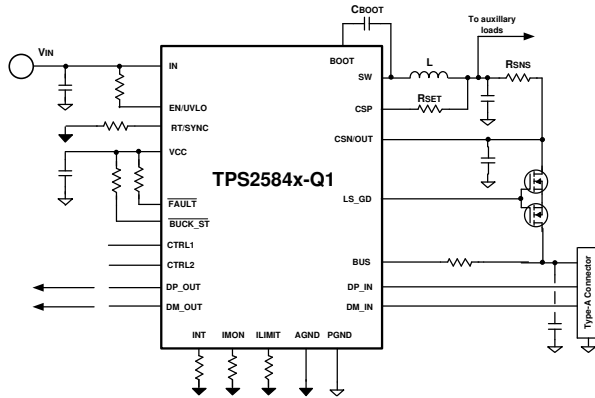

图 10-15. Current Limit With External MOSFET
- With external MOSFET 图 10-15:
The TPS2584x-Q1 has integrated NFET gate drivers, and can support current limit with external NFET. Refer to 图 10-15.